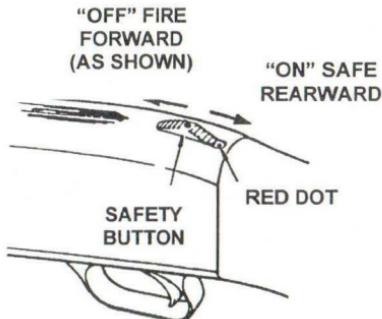

Fig. 2
The safety is located on the top rear portion of the receiver (Fig. 2) and must be manually moved to the desired position by the shooter.
**To put the safety in the "ON" (SAFE) position, the safety button must be moved fully rearward into the safety detent. The button will now be over the red dot. The red dot is a training aid used only to show the direction of the "ON" (SAFE) position and should not be used as an indicator that the safety is "on" or "off" (Fig. 2). Moving the safety button forward toward the muzzle of the gun will put the safety in the "OFF" (FIRE) position.**
Be sure the gun is unloaded and the safety button is fully rearward to the "ON" (SAFE) position (Fig. 2).
Before loading, move the safety button fully rearward (Figure 2) to the "ON" SAFE position.
The shotgun is now loaded! The safety button (Fig. 2) should be kept fully rearward in the "ON" (SAFE) position until ready for use. Keep the muzzle pointed in a safe direction at all times.